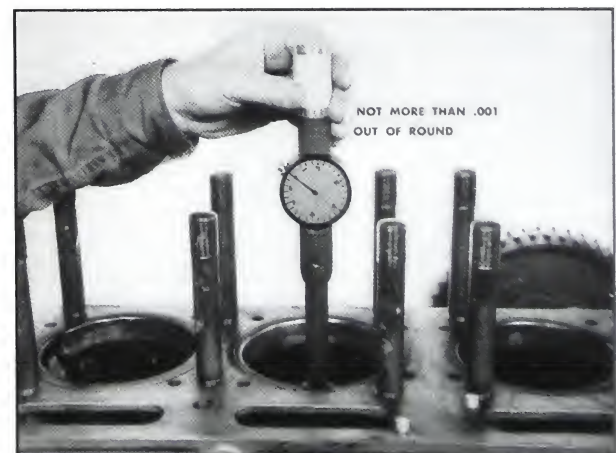

Fig. 2-43. Gauging cylinder liner bore
3. Assemble the proper amount of shims around the liner and push it into place with hand pressure only. Check the liner bore crosswise and endwise of the engine at various points within the range of piston travel. (Fig. 2-43). New 4 $\frac{7}{8}$ ” liners are 4.877/4.876 I.D. New 5 $\frac{1}{8}$ ”